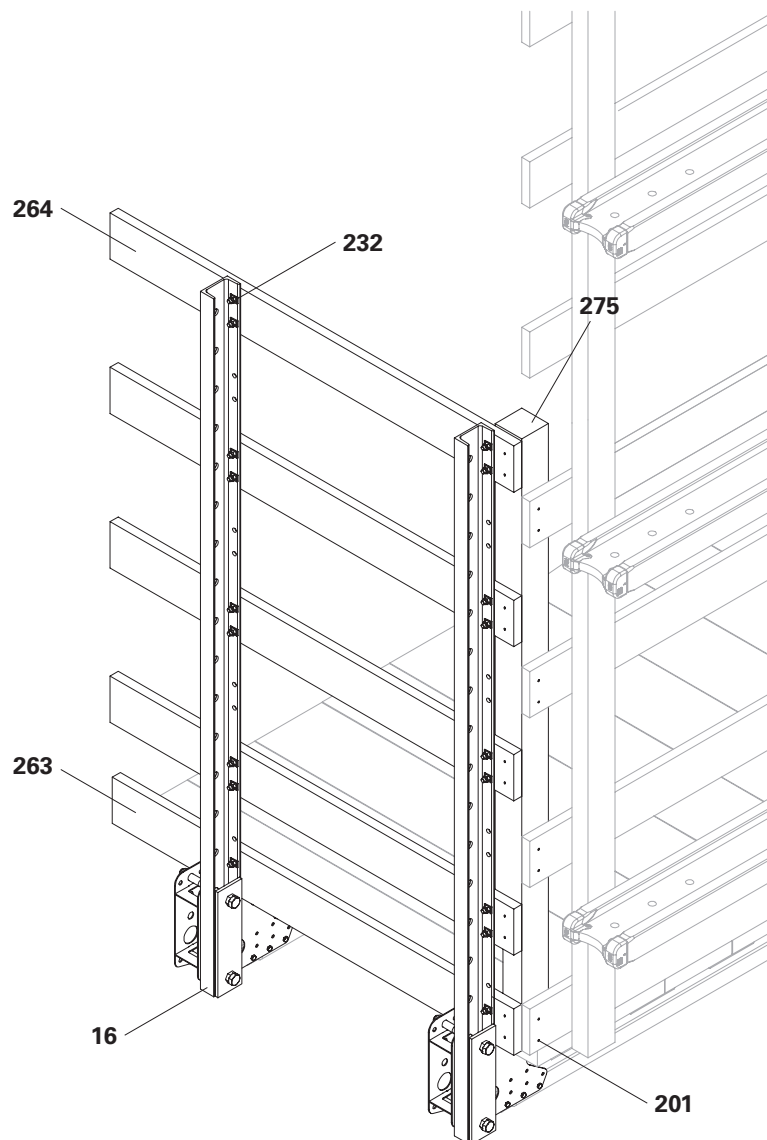

Fig. B11.06
1. Saw a piece of squared timber 8/8 (275) to length. The squared timber must run all the way from the lower edge of the toe board to the upper edge of the ladder cage.
2. Screw squared timber 8/8 (275) with 2x Torx 6 x 60 (201) per board to the ladder cage and toe board.
3. Screw squared timber 8/8 (275) with 2x Torx 6 x 60 (201) per board to lateral protection and toe board.
- (Fig. B11.06)